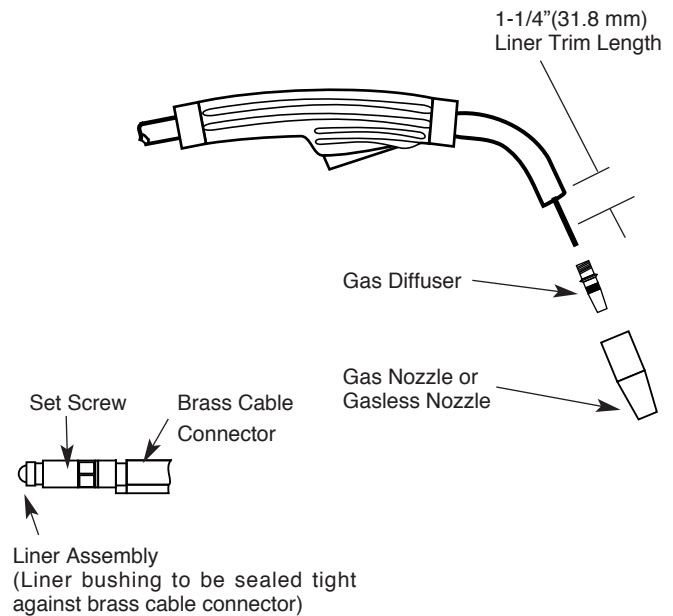

FIGURE D.2
NOTICE: The variation in cable lengths prevents the interchangeability of liners. Once a liner has been cut for a particular gun, it should not be installed in another gun unless it can meet the liner cutoff length requirement. Refer to Figure D.2.
7. With the gas nozzle and diffuser removed from the gun tube, be sure the cable is straight, and then trim the liner to the length shown in the Figure D.2. Remove any burrs from the end of the liner.